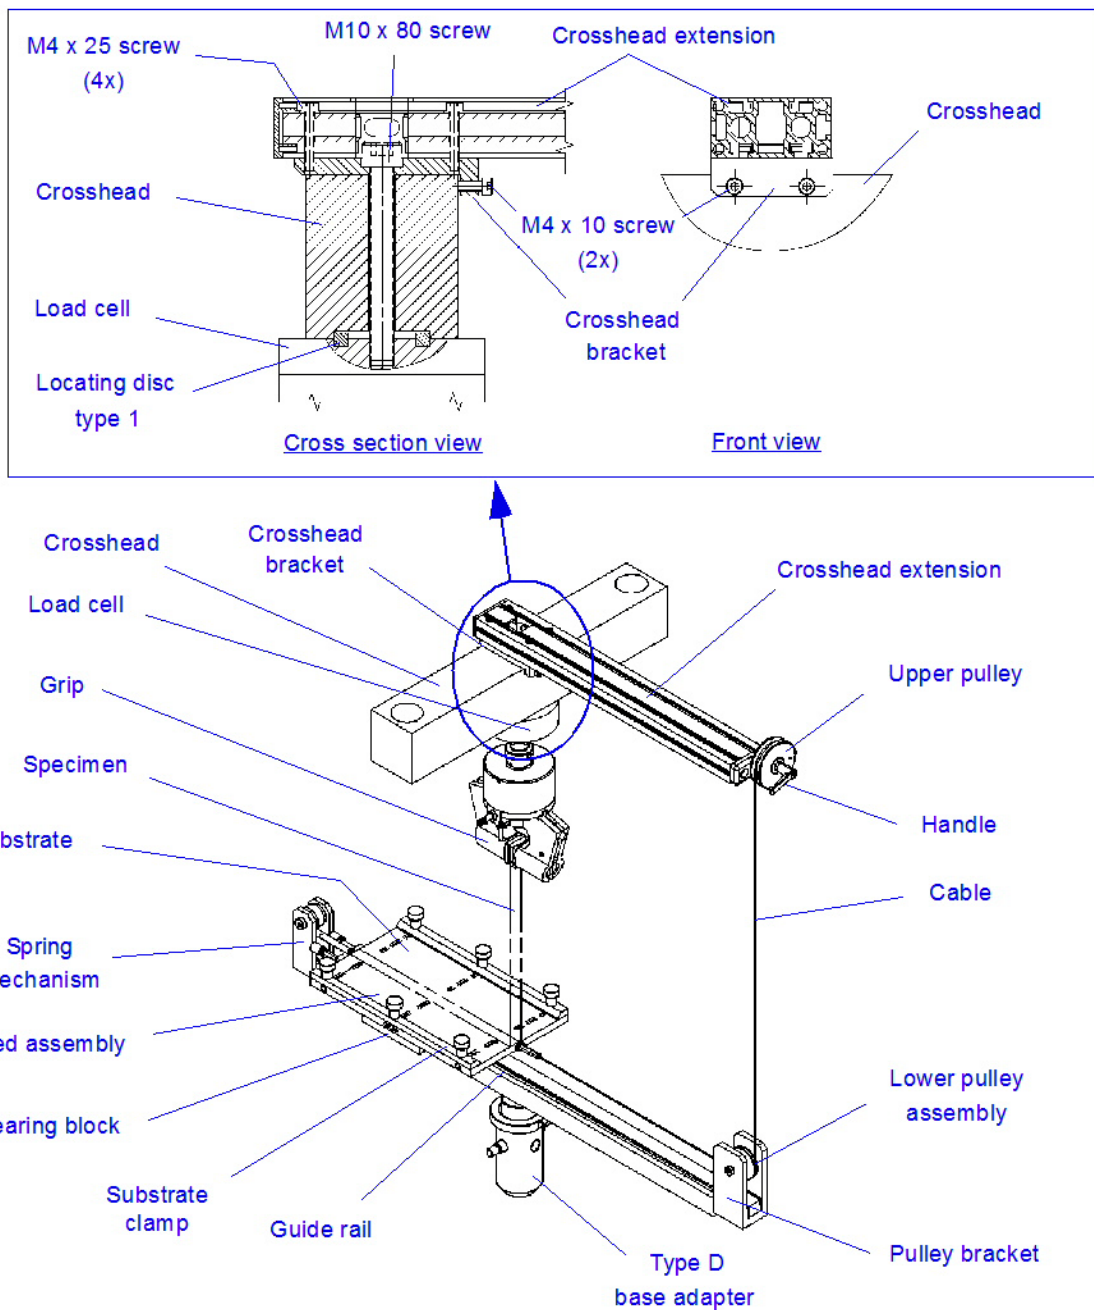

Figure 5. Installation on 4411 Load Frame
See Figure 5 on page 25 to identify the components described in this section. Note that sled assembly on the 90° peel fixture includes the bearing block, T-slot sled, and substrate clamps. On the variable angle peel fixture, the sled assembly includes the bearing block, sled, T-slot sled, protractor, and substrate clamps.
2. Place the crosshead extension and bracket on top of the crosshead and insert the load cell mounting screw (M10 x 80 cap screw) through the center of the extension, bracket and crosshead, as shown in Figure 5 on page 25. Hand tighten the screw into the load cell.